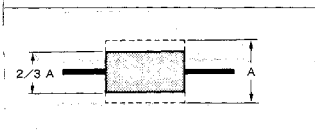

Fig. 7-80.
- 2) Set the SEL switch of the track shift jig to ON, and turn the track shift knob, until the RF waveform amplitude becomes $2/3$. (See Fig. 7-80.)